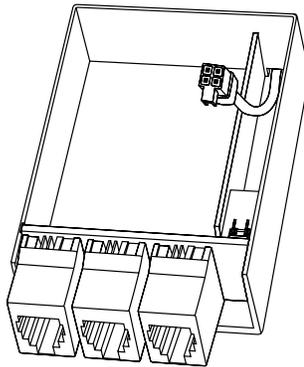

Figure 9
2. Insert the cable from the Entry through the hole at the bottom of the box (Figure 9).
4. Insert the 4-pin cable from the first interface box through the hole at the bottom of the box (Figure 9).